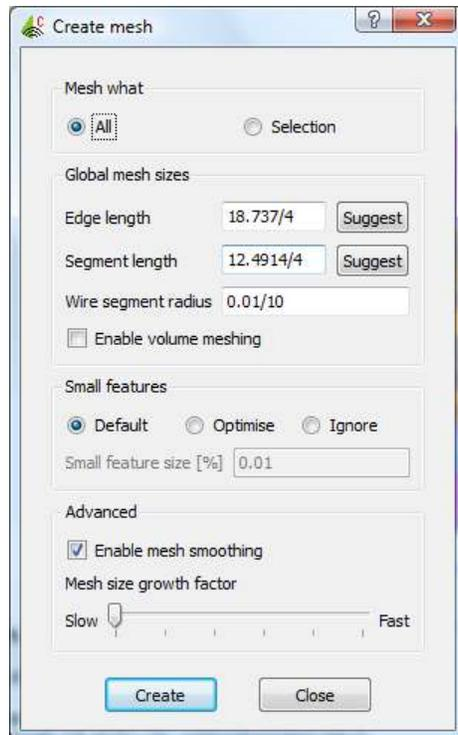

Figure 14.
17. From the “Mesh” pull down menu, choose “Create Mesh”. Fill in the fields as shown in Figure 14. “Edge Length” and “Segment Length” are chosen by clicking the “suggest” button, then dividing by 4 (/4) [If you get an Error, you need to specify the Solution frequencies, so choose an interpolated analysis with f1 as the starting frequency and f2 and the end frequency]. (Usually for smaller structures we use lambda\_min variable for these two lengths, here if you use lambda\_min, the mesher will take a large amount of time to create an extremely fine grid).
25. After running “Post FEKO”, you will obtain a window as shown in Figure 14.